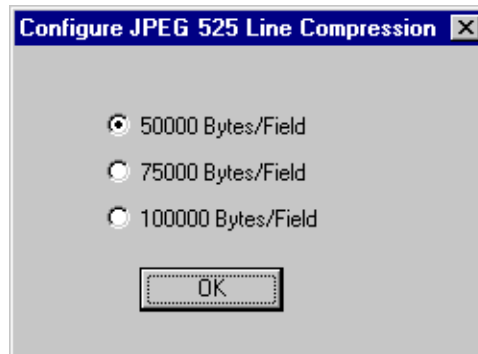

Figure 111. Setting JPEG compression
6. If you selected a JPEG codec, a dialog box appears similar to the one shown in Figure 111. Select a compression setting for your recordings and click **OK**.